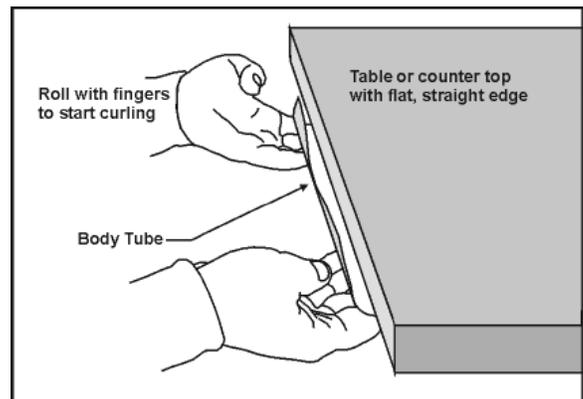

Figure 2
2. Resting the pattern on your fingers, print side down, press and roll the body tube, with the unprinted side against a table edge, as shown in **Figure 2**. This will cause the paper to begin to curl in the direction needed for assembly.